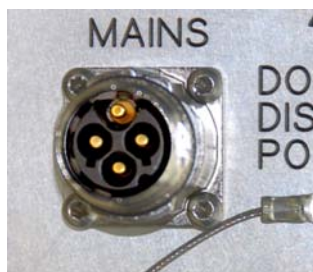

figure 4-17 Mains power connector
7. Unscrew the protective cover from the Mains connector of the RU (figure 4-17).